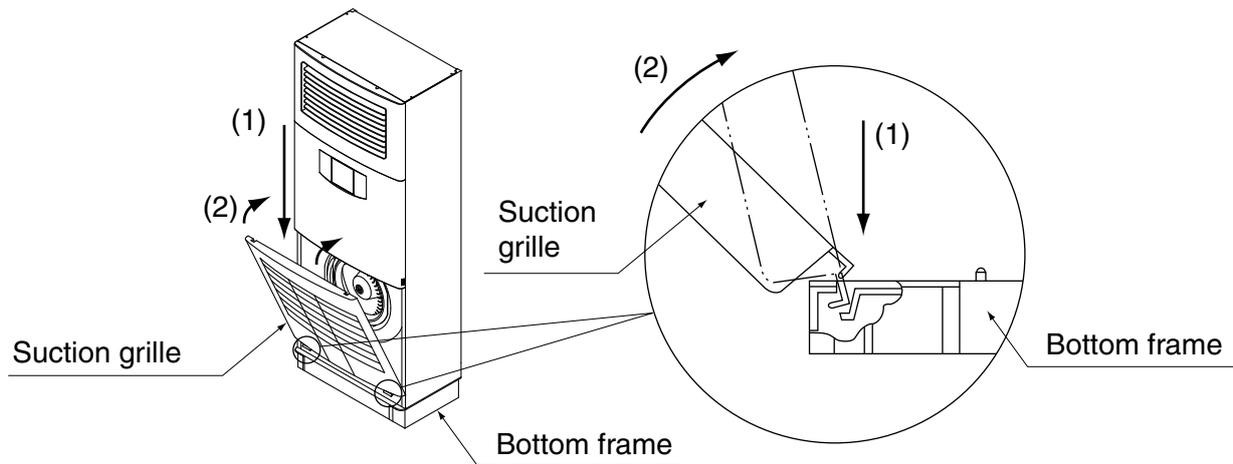

Fig. 40
1. Hook the suction grille on the groove on the unit's bottom frame in the order of (1) → (2). (Refer to Fig. 40)